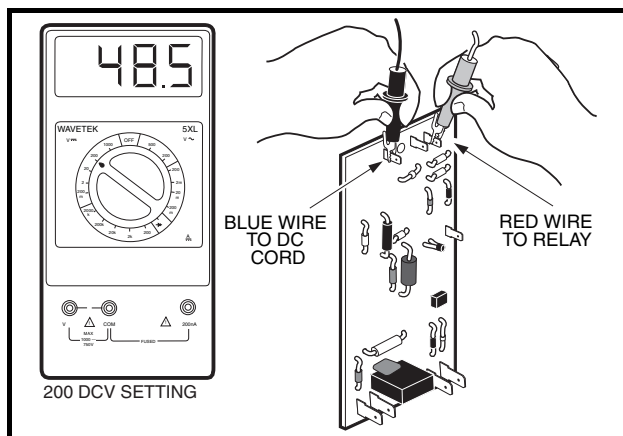

Figure 9-5 DC Circuit Test
2. Place black (–) probe of multimeter on terminal with blue DC cord wire and red (+) probe to terminal with red relay wire (**Figure 9-5, Page 9-11**).